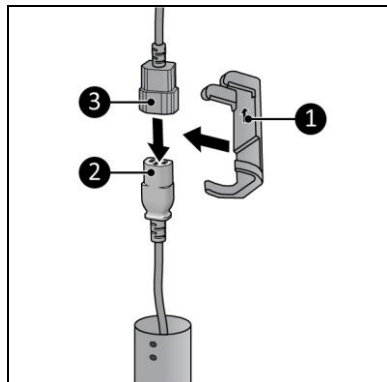

Figure 5
4. Connect the female plug (Figure 5, pos. 2) to the plug connector of the heating cap (Figure 5, pos. 3).
5. Secure this connection using the clamp (Figure 5, pos. 1). Make sure the arrow points to the heating cap.